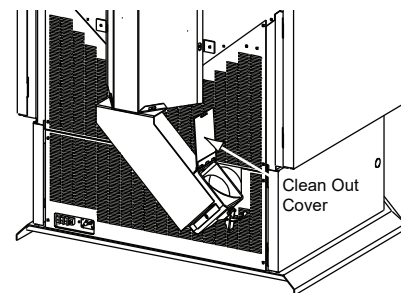

Figure 21.1
- b. Open the clean-out cover (**See Figure 21.1**).